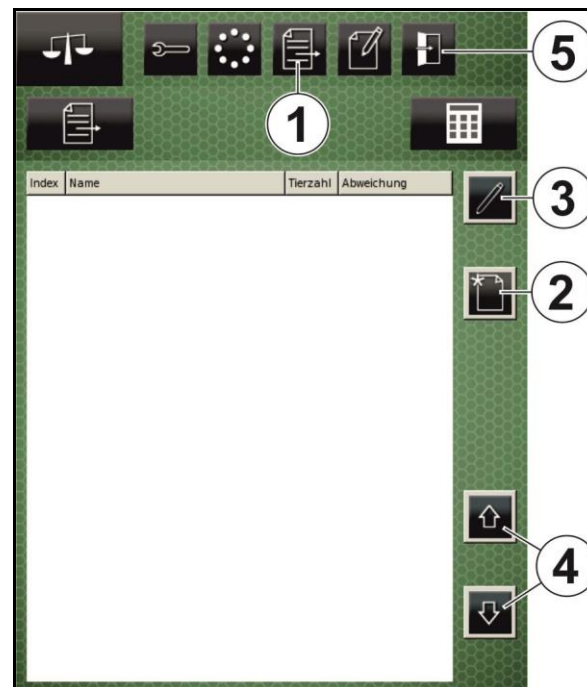

Fig. 184
- Press the "Exit menu" key (Fig. 184/5) to call up the basic configuration of the terminal.